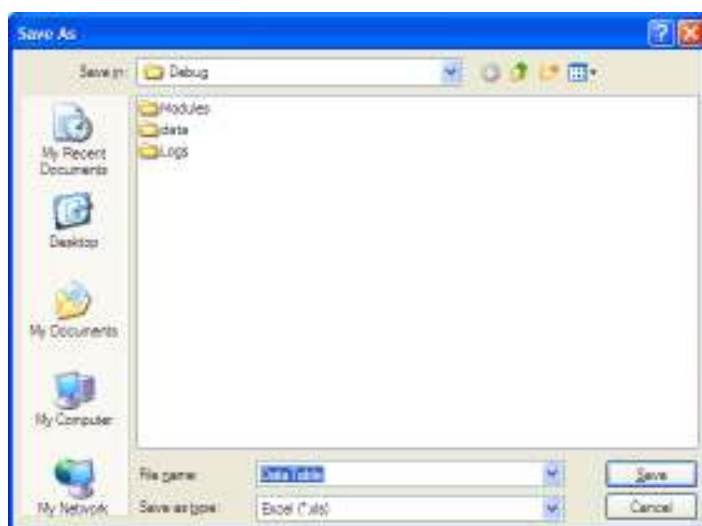

Figure 6.9 File save dialog
3. File save dialog appears. Set file path and input file name, then click OK (Figure 6.9).